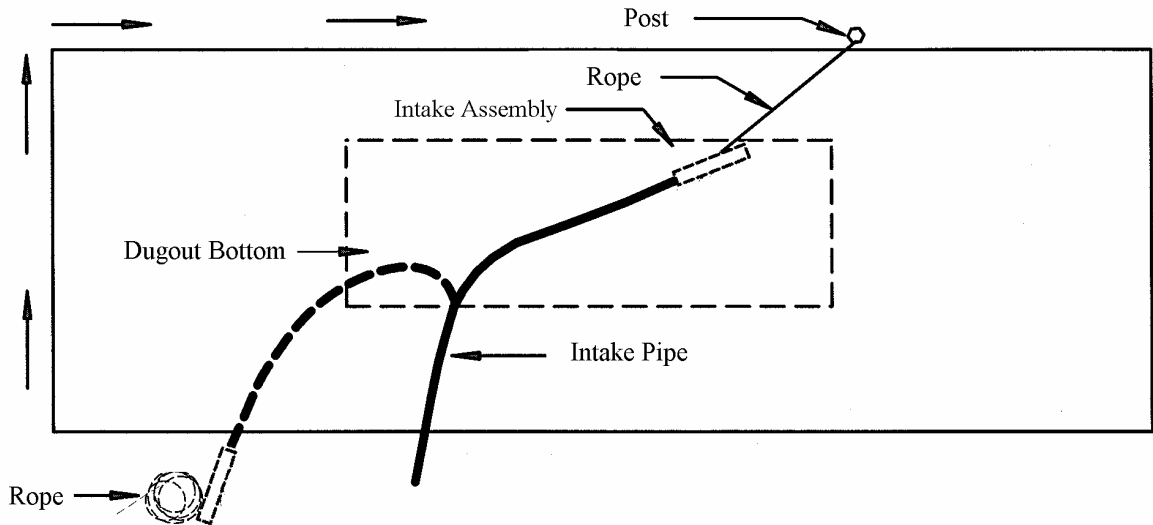

Fig 2: Float Assembly Placement and Installation
1. Begin trenching at approximately 30° to the dugout (see Figure 2) reaching as far as possible into the dugout.